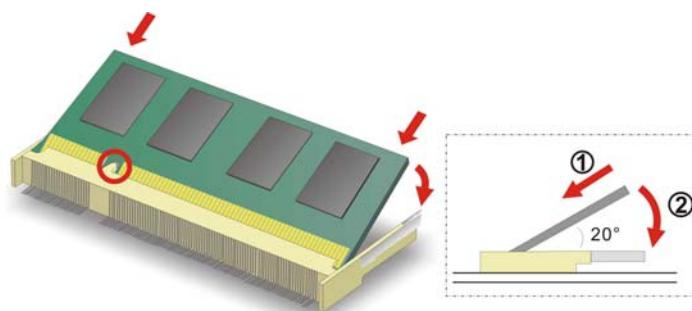

Figure 3-3: SO-DIMM Installation
Step 4: Insert the SO-DIMM. Push the memory in at a 20° angle (**Figure 3-3**)
Step 5: Seat the SO-DIMM. Gently push downwards and the arms clip into place. See **Figure 3-3**.